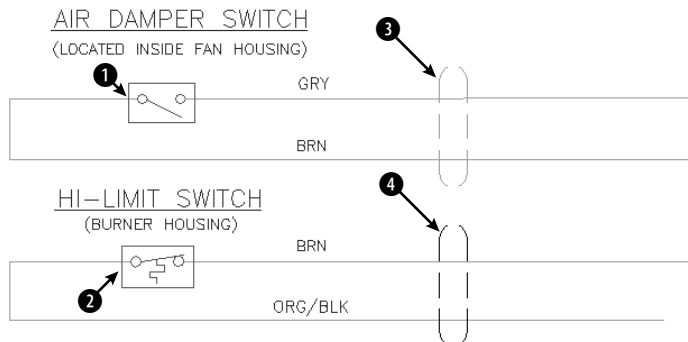

Figure 18-12: The electrical schematic has several blocks that have been inserted.
2. Save the file as **ab18-05.dwg** in your **AutoCAD Bible** folder. This is the same electrical schematic used in the previous exercise, except that the objects are now blocks that have been inserted (see Figure 18-12). **OSNAP** should be on. Set running object snaps for endpoint, midpoint, quadrant, and intersection. The current layer is **Object**.
3.  Choose **Explode** from the **Modify** toolbar. At the **Select objects:** prompt, choose the air damper switch at ❶ in Figure 18-12. Press Enter to end selection. The switch turns black or white (the opposite of your screen color) because it was created from objects whose color and linetype were set to **ByBlock**.